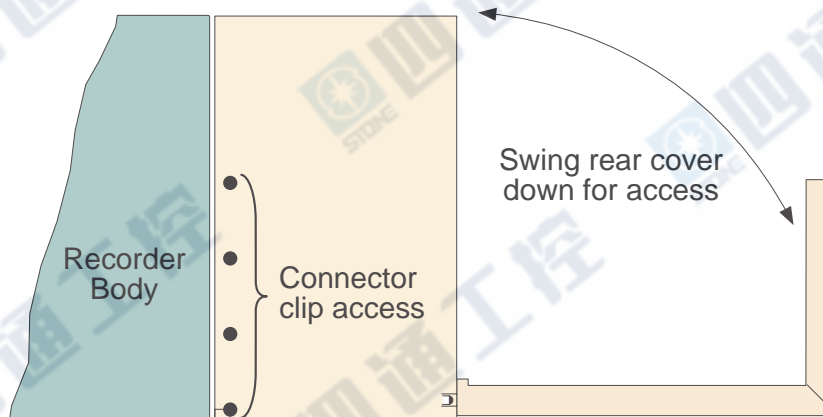
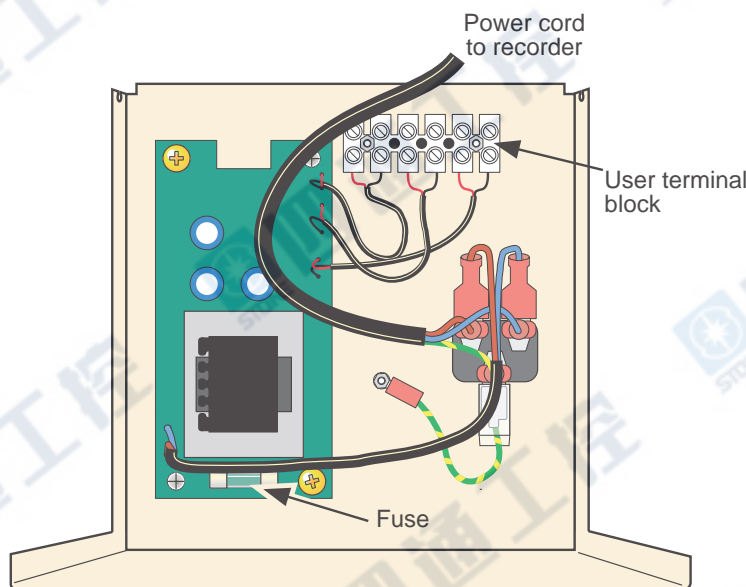
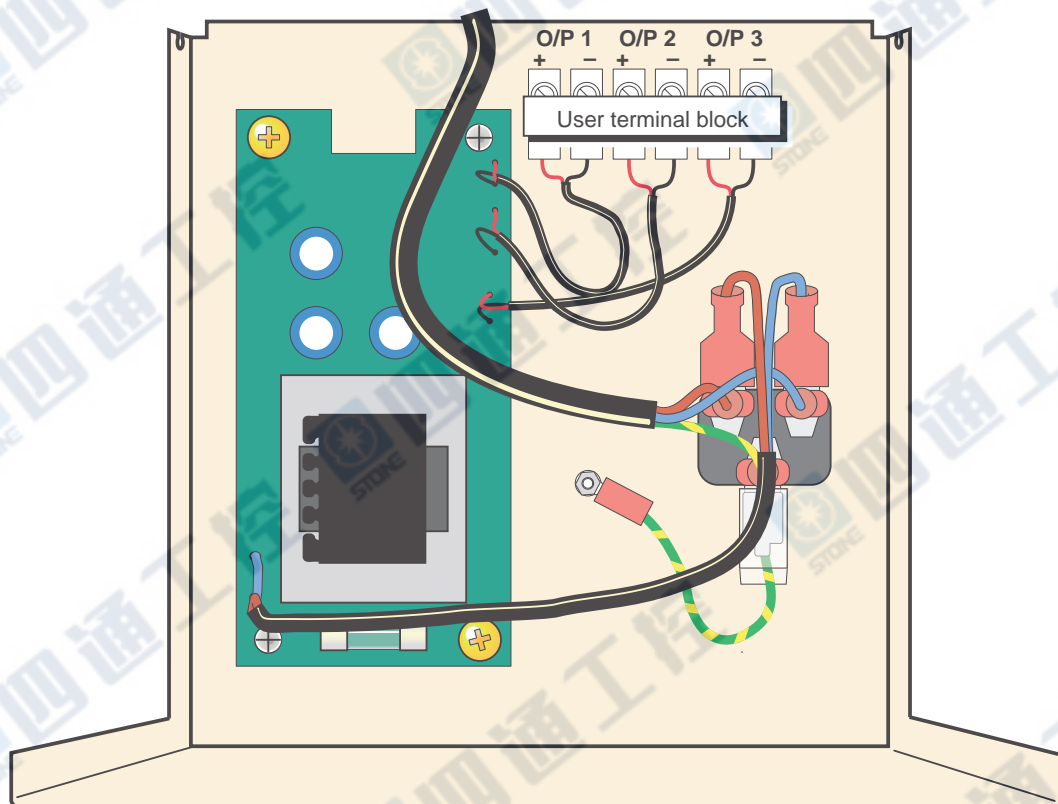
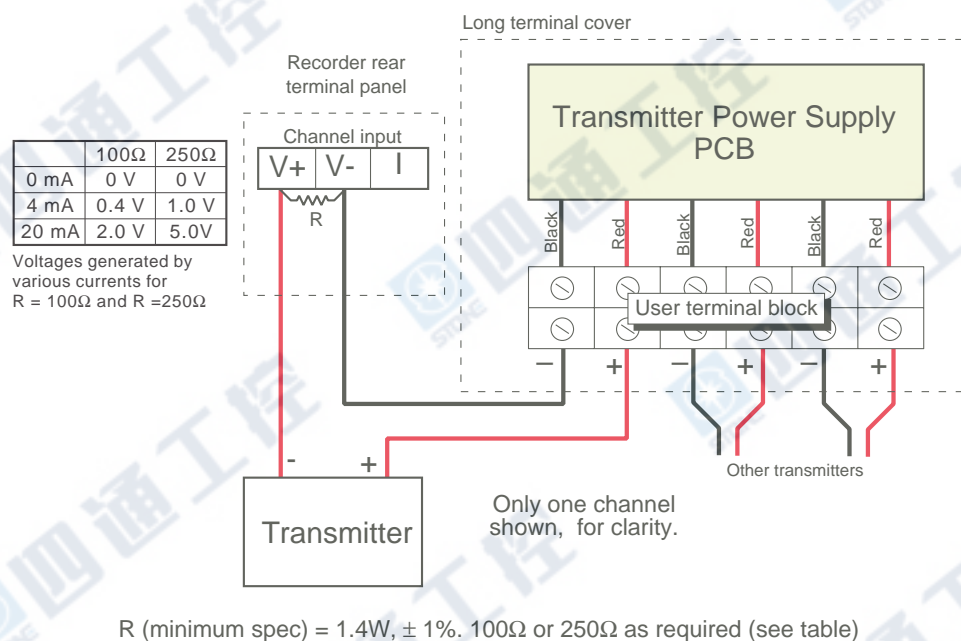

Figure 11.2.2b Opening the rear cover
Figure 11.2.2c Fuse and User terminal block locations
Figure 11.2.3a Terminal block wiring
Figure 11.2.3b Applications wiring
- 3 Open the cover (figure 11.2.2b) to reveal the circuit board, user connections etc. (figure 11.2.2c)
- 4 The fuse is located as shown in figure 11.2.2c. User wiring to the terminal block (figures 11.2.3a/b) can be carried out now, or the terminal cover can be removed for convenience, as described in steps 5 onwards below.
**Note:** Four apertures in each side of the terminal cover allow the user to actuate the clips which secure the i/o connectors to the rear panel of the recorder. This allows the i/o connectors to be removed if, for example, the recorder is to be removed from the panel for any reason. The positions of these apertures are shown in figure 11.2.2b (right-hand side shown; left-hand side similar).
Figure 11.2.3a shows the terminal block pinout, and figure 11.2.3b shows typical applications wiring.